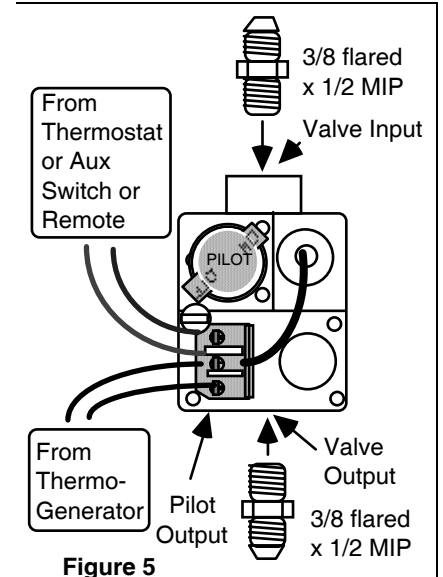

Figure 5
STEP THREE: Valve Fittings (Figure 5).
1. Attach the **JPG-9 Thermogenerator Leads** to the "PG" and "PG TH" terminals of the **Valve Terminal Block**. See Figures 5, 6 and 7.